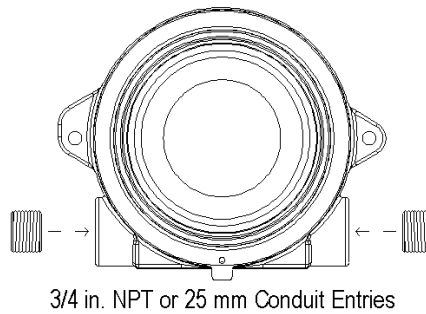

Figure 2-3
- a) If only one conduit entry is used, correctly install and seal the conduit plug on the unused entry, 3/4 in. NPT or 25mm (see Figure 2-3).